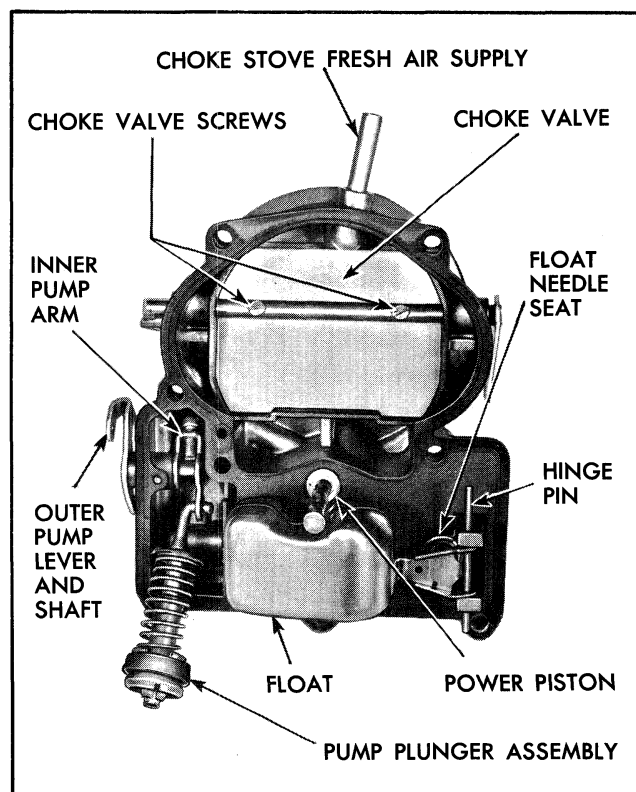

Fig. 6B-47 Bowl Cover Attaching Parts
9. Remove retainer on pump plunger shaft, remove plunger assembly from pump arm (Fig. 6B-47). The pump lever and shaft may be removed by loosening set screw on inner arm and removing outer lever and shaft.